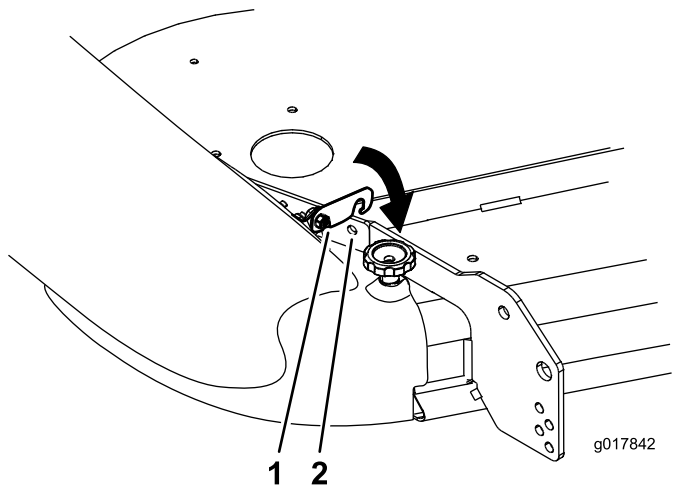

Figure 28
6. Rotate the latch until it hooks into the hole in the mower deck stiffener (Figure 28).